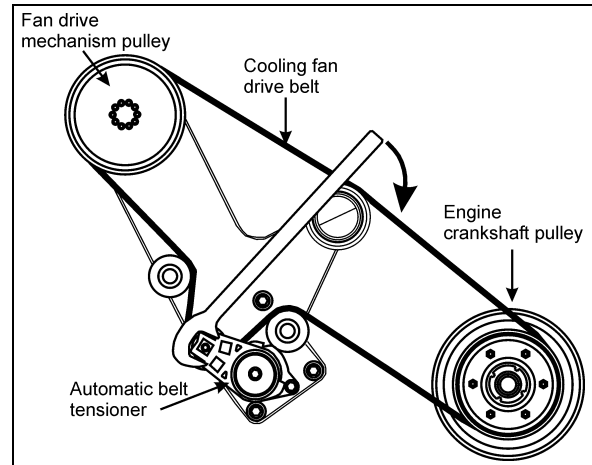

FIGURE 29: DRIVE BELT ROUTING (VOLVO D13 ENGINE)
2. Using the special tool included with your vehicle (see inside the Warning Reflectors box located in the first curb-side baggage bay), rotate the automatic tensioner in clockwise direction to relieve tension on the belt and hold the tensioner in that position (Figure 29).